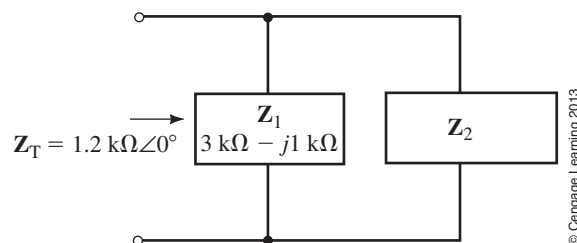

FIGURE 18-108
38. Determine the impedance, Z_2 , that will result in the total impedance shown in Figure 18-108.